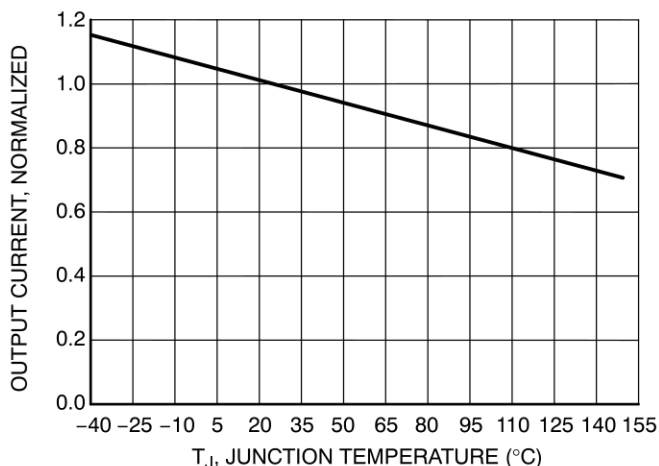

Figure 5. Current Regulation vs. Junction Temperature
- Calculate the junction temperature using the thermal information on Page 7 and refer to Figure 5 to check the output current drop due to the calculated junction temperature. If desired, compensate it by adjusting the value of R_{ext} .